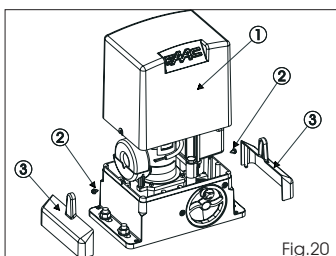

Fig.20
Return the board support to its original position. Fit the cover, Fig. 20 ref. 1, and tighten the two side screws provided (Fig. 20 ref 2), and snap-fit the side panels (Fig. 20 ref.3).